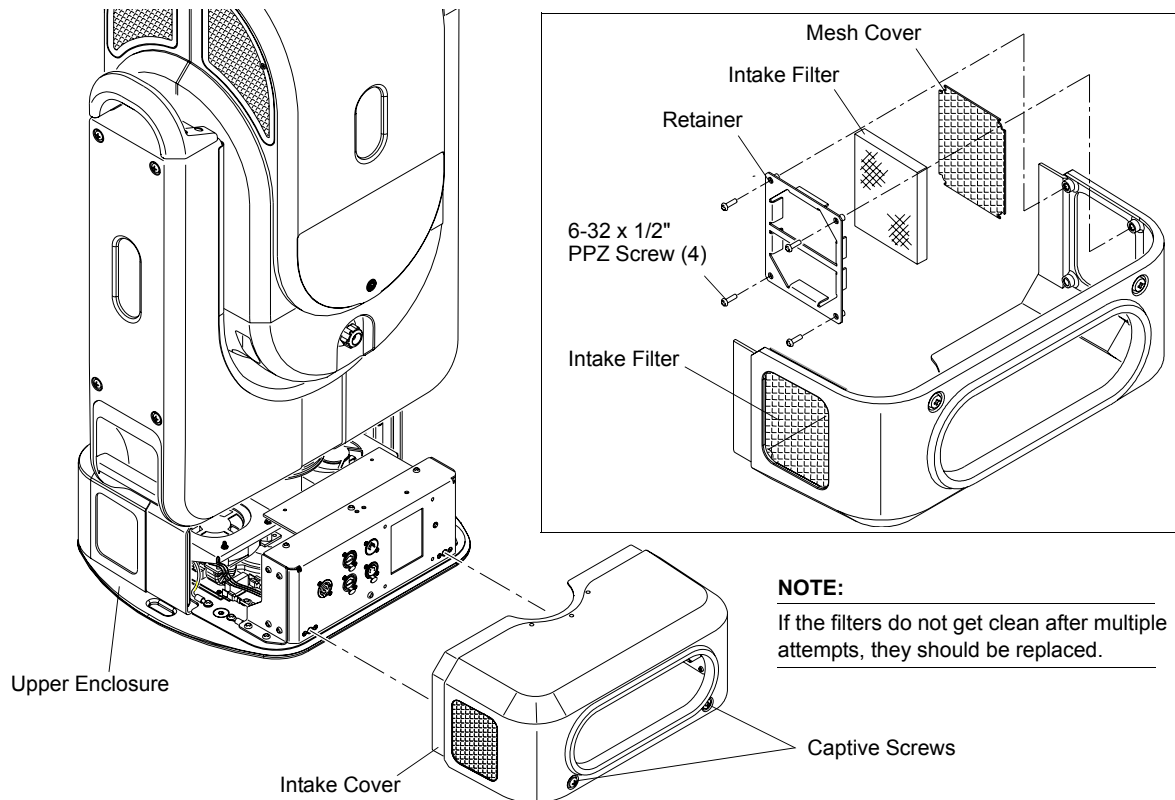

Figure 4-5: Removing Enclosure Intake Filters
Step 2. Remove Intake Cover by first loosening two captive screws, then pulling away from Upper Enclosure as shown in Figure 4-5.